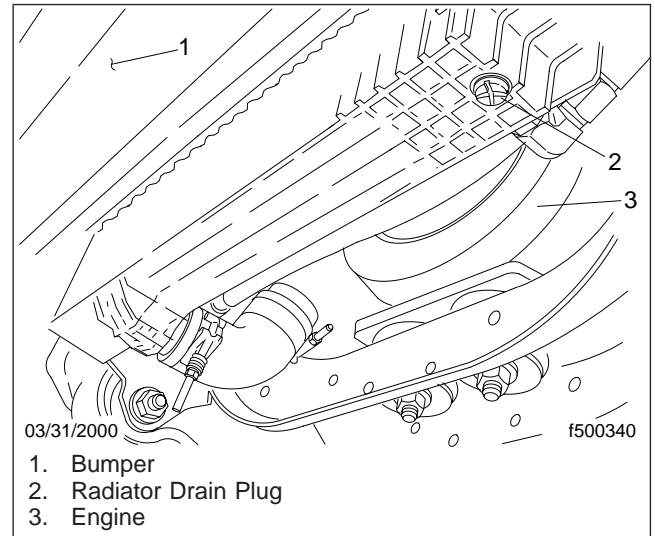

Fig. 1, Radiator Drain Plug
- 1.2 Remove the plug from the bottom of the radiator on the left side of the tank to drain the engine coolant. See Fig. 1.